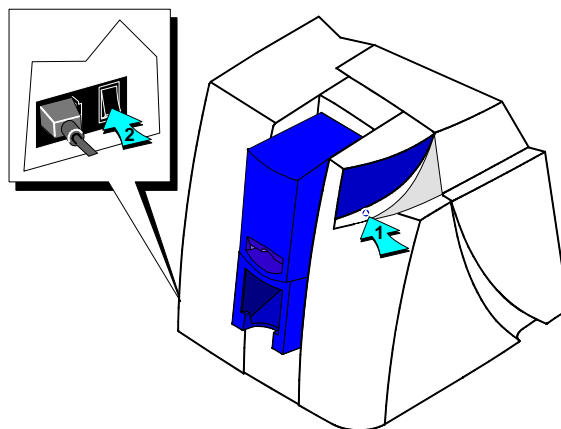

Figure 5-1: Press and hold Ready button (1) and then Press Power switch (2)
- 3 Press and hold the Ready button (1), and then power on the printer (2) as shown in Figure 5-1. Hold the Ready button until the printer sounds three tones, usually 5 to 10 seconds.